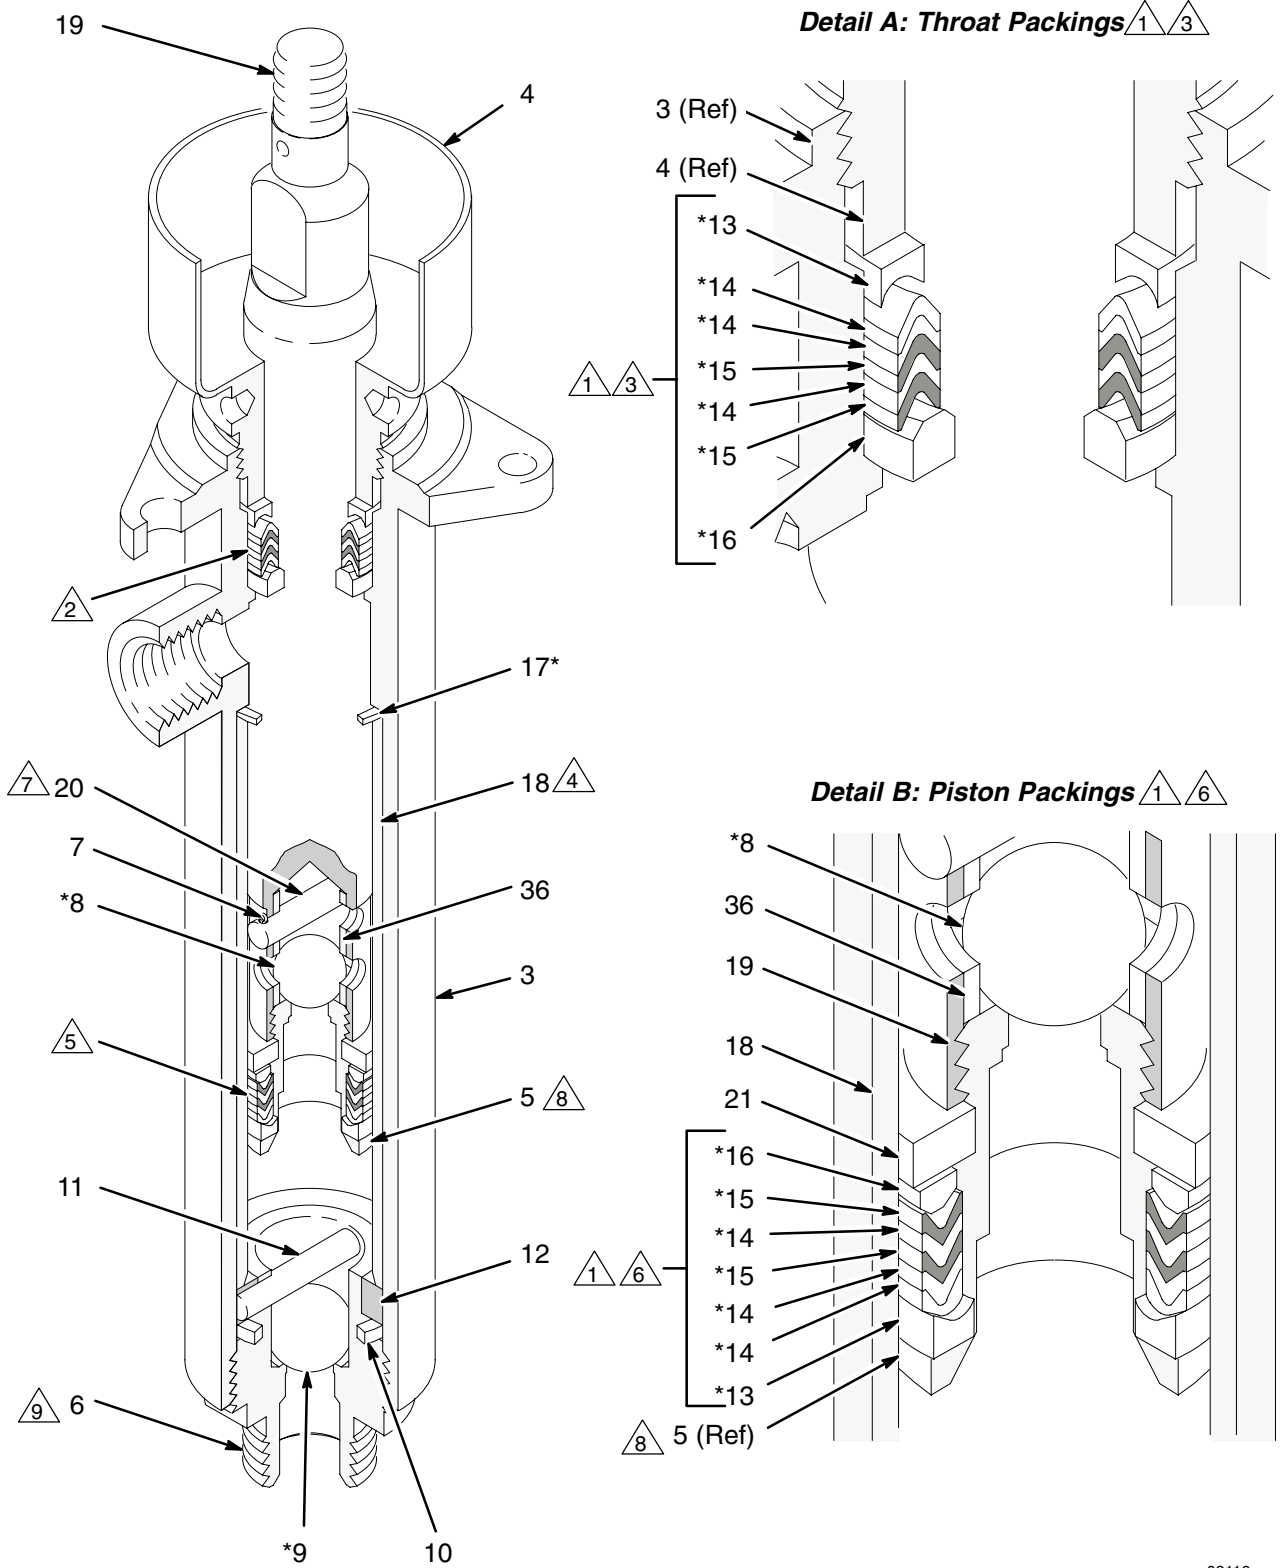

Fig. 5
When disassembling the pump, lay out all removed parts in sequence, to ease reassembly. Refer to Fig. 5.
2. Unscrew the intake valve body (6) from the pump housing (3). Remove the ball stop pin (11), retainer (12), o-ring (10), and ball (9). See Fig. 5.
3. Loosen the packing nut (4). Push the displacement rod (19) down until the piston body (5) clears the bottom of the pump housing (3). Grasp the piston and pull the rod straight out, being careful not to scratch the sleeve (18) inside the housing.
4. Screw the piston body (5) out of the rod (19). Remove the ball (8), packing retainer (21), glands (16, 13), and packings (14, 15).
2. Install the piston packings onto the piston body (5) one at a time in the following order, *with the lips of the v-packings facing up*: the female gland (13*), two PTFE v-packings (14*), one leather v-packing (15*), one PTFE (14*), one leather (15*), the male gland (16*), and the packing retainer (21). See Detail B of Fig. 5.
3. Install the piston ball (8*) on the piston and screw the piston valve assembly into the displacement rod (19). Torque to 35–40 ft–lb (47–54 N•m).
4. Install the throat packings in the pump housing (3) one at a time as follows, *with the lips of the v-packings facing down*: the male gland (16*), one leather v-packing (15*), one PTFE v-packing (14*), one leather (15*), two PTFE (14*), and the female gland (13*). See Detail A of Fig. 5.